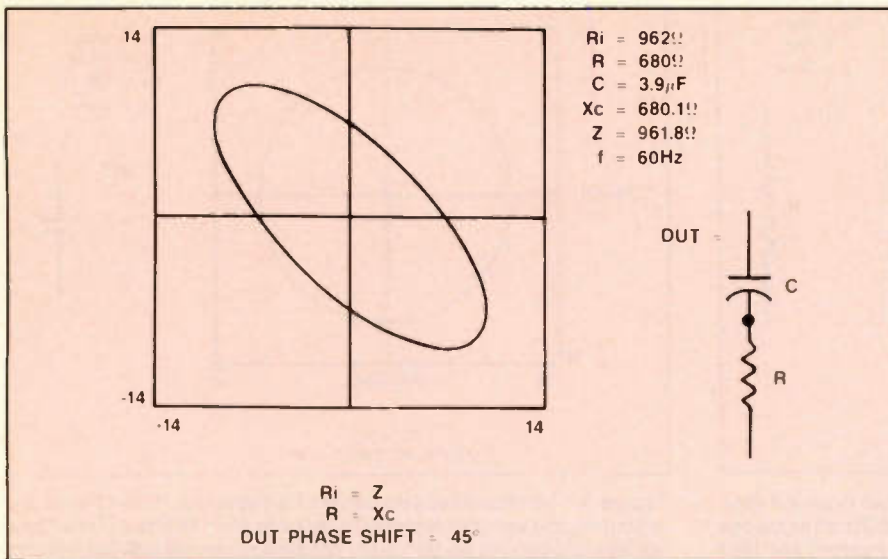

Figure 5. When the phase shift of a complex impedance is 45° , the resistance and reactance of the device under test are equal.
phase shift of $\pm 45^\circ$. This occurs when the resistance and reactance of the DUT are equal. The ratio of the minor axis length to the major axis length at this point is a bit less than half or actually 0.414 (Figure 5). To easily view or accurately measure the phase shift and/or determine if the DUT current leads (capacitive) or lags (inductive) the voltage, set the scope for dual-channel time mode while still connected to the component tester. Trigger on the voltage (X) channel output (invert the X channel input to correct for the component tester's 180° phase shift) and note the zero crossings.
4). This phase relationship will be reflected in the shape of the ellipse after R_i has been adjusted for the ellipse to lay along the 45° reference angle. A thin ellipse will have a small phase shift (reactance dominates). Unless the resistive influence is negligible, adjusting R_i will yield an ellipse whose major axis can be rotated to the 45° reference angle. At this point, the component tester's internal resistance (R_i) will equal the complex circuit impedance (Z) of the DUT (Figure 5). R_i at this point can then be measured and equated to the DUT impedance ($R_i = Z$).